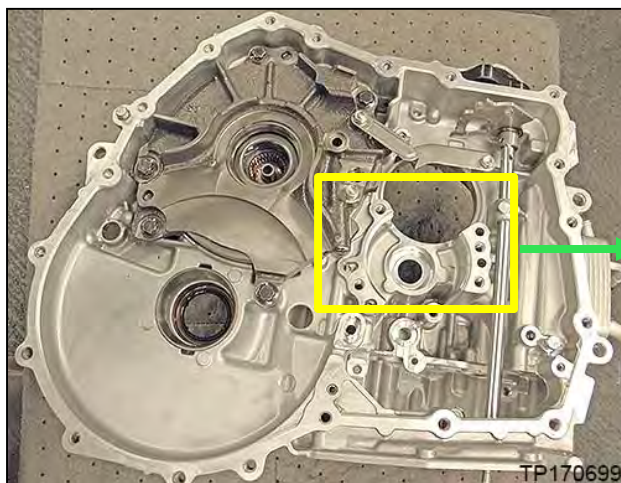
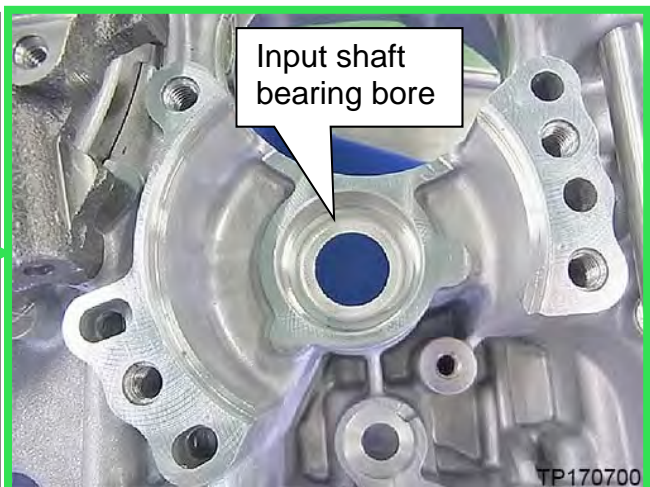

Figure 114
Figure 115
94. Clean the input shaft bearing bore area (Figure 114 and Figure 115).